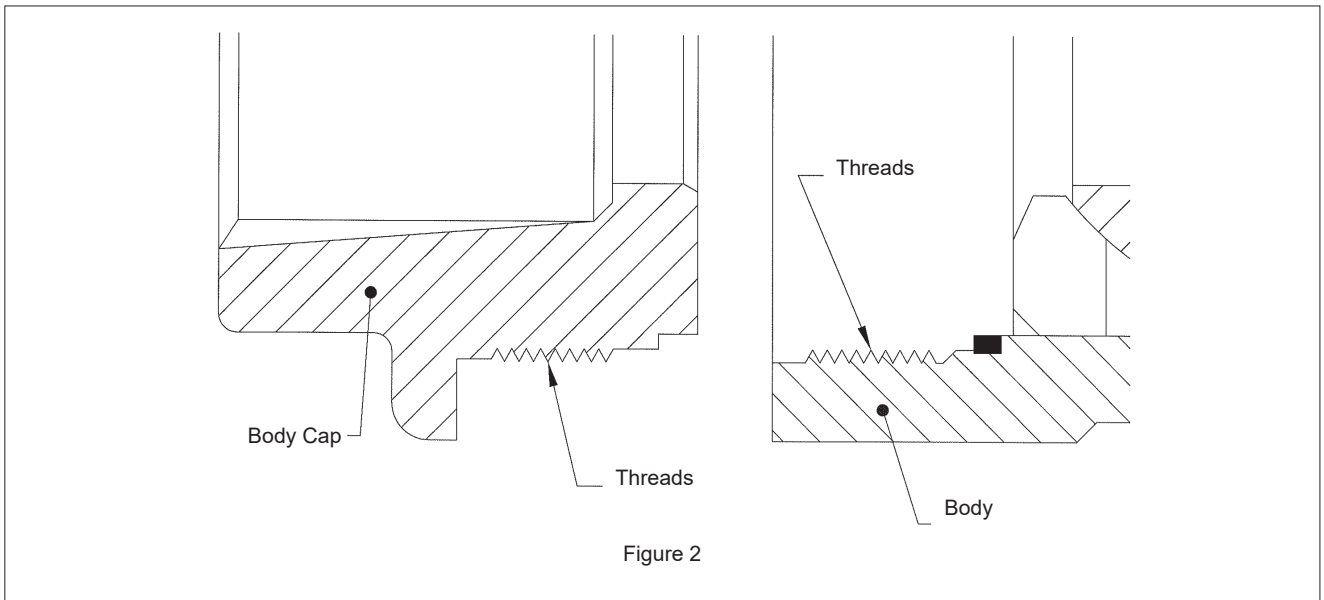

Figure 2
5. Press the stem (4) from the top into the valve body and remove it through the body cap end of the body.
6. Using a wire brush, clean the internal body cap thread and internal body threads (see **Figure 2**).
7. Remove and discard the old stem seals (7), stem bearings (8) and sec. stem seal (13). Be very careful not to scratch any sealing surfaces in the valve body (surfaces on which seats and seal rest).